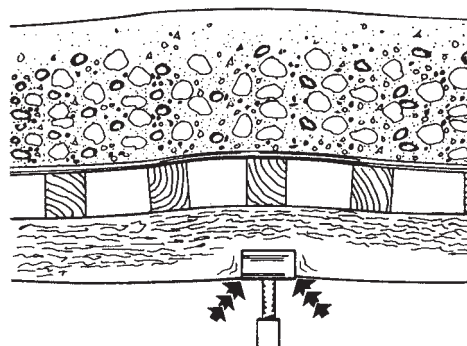

Figure 42-29: Crushing of Stringer Over U-Head
- Crushing of wooden stringers on U-heads (Figure 42-29)